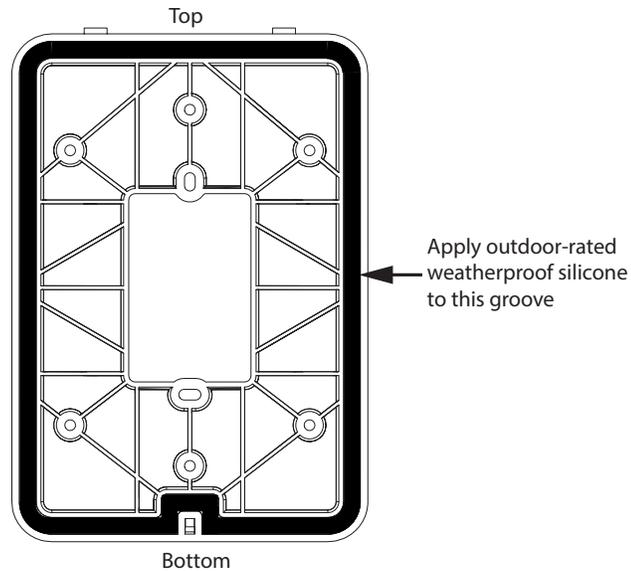

Figure 3. Mounting plate (back view): apply silicone to the groove
- Figure 3. Mounting plate (back view): apply silicone to the groove **10**
- If you are mounting the TX3 Nano outside, apply outdoor-rated weatherproof silicone to the groove in the back of the mounting plate to prevent water from flowing around the mounting plate and into the TX3 Nano. In Figure 3, the groove is shown in solid black.
- Mount the mounting plate the right way up. The 2 hooks are on top and the screw hole is on the bottom as shown in Figure 3.